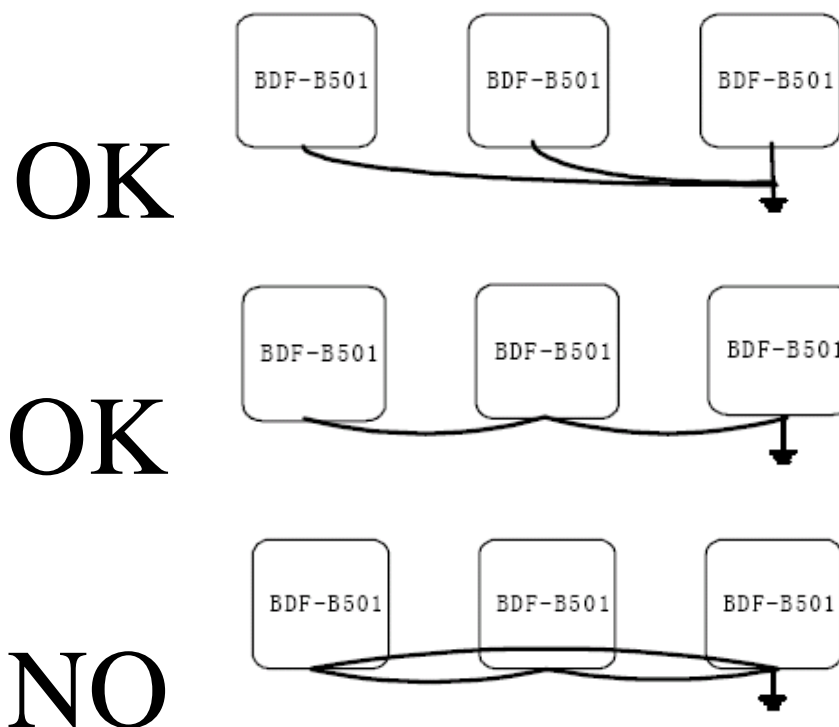

Fig.2-14 The method of a ground wire
- ② Do not share the ground wire with other devices, such as welding machines or power tools.
- ③ Always use a ground wire that complies with the technical standards on electrical equipment and minimize the length of ground wire.
- ④ When using more than one inverter, be careful and don't loop the ground wire in a circuit, as shown below Fig.2-14.